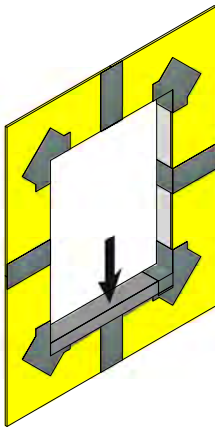

Figure 11
8. Cut SHEATHING FABRIC to desired size. Place the SHEATHING FABRIC into the wet ACROSTOP-R. Lap mesh 63.5 mm (2 1/2") minimum at intersections. (See Figure 11)
9. Apply additional ACROSTOP-R onto the SHEATHING FABRIC to embed. If necessary, apply a second coat. (See Figure 11)